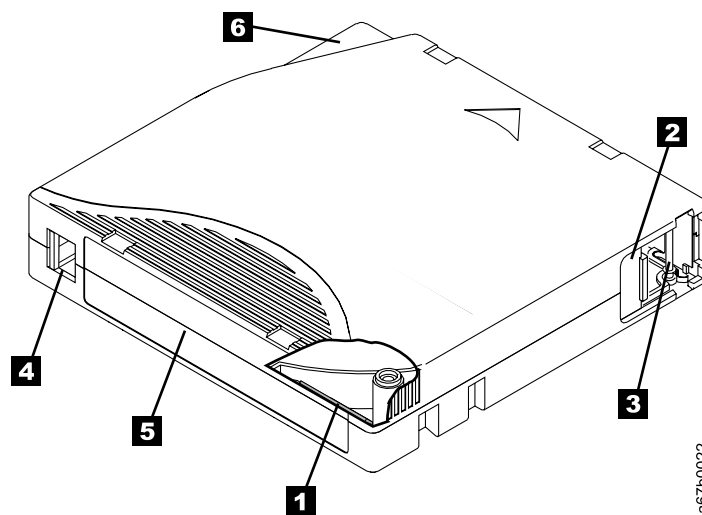

Figure 375. The IBM TotalStorage LTO Ultrium 200 GB Data Cartridge
Figure 375 shows the TotalStorage LTO Ultrium 200 GB Data Cartridge and its components.
Both generations of the IBM LTO Ultrium Data Cartridge includes a Linear Tape-Open Cartridge Memory (LTO-CM) chip (**1** in Figure 375 on page 245), which contains information about the cartridge and the tape (such as the name of the manufacturer that created the tape), as well as statistical information about the cartridge's use. Whenever you unload a tape cartridge, the Ultrium Scalable Tape Library writes any pertinent information to the cartridge memory.
The cartridge door (**2** in Figure 375 on page 245) protects the tape from contamination when the cartridge is out of the drive. Behind the door, the tape is attached to a leader pin **3**. When you insert the cartridge into the drive, a threading mechanism pulls the pin (and tape) out of the cartridge, across the drive head, and onto a non-removable takeup reel. The head can then read or write data from or to the tape.
When attaching a bar code label to a tape cartridge, place the label only in the recessed label area (see **5** in Figure 375 on page 245). A label that extends outside of the recessed area can cause loading problems in the drive or the library.
- Position the label within the recessed label area (see **5** in Figure 375 on page 245).